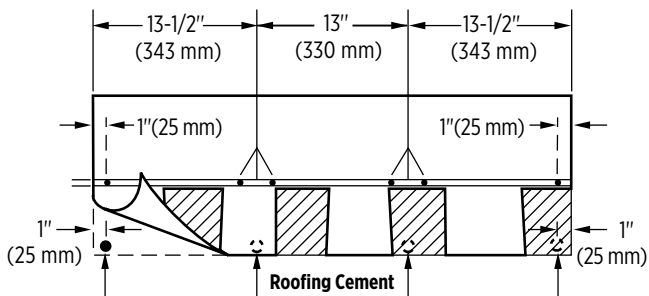

Figure 14-4: Use six nails and four spots of asphalt roofing cement on steep slopes.
**IMPORTANT:** When “six nailing” a full shingle, follow the nail placement pattern shown in figure 14-4.